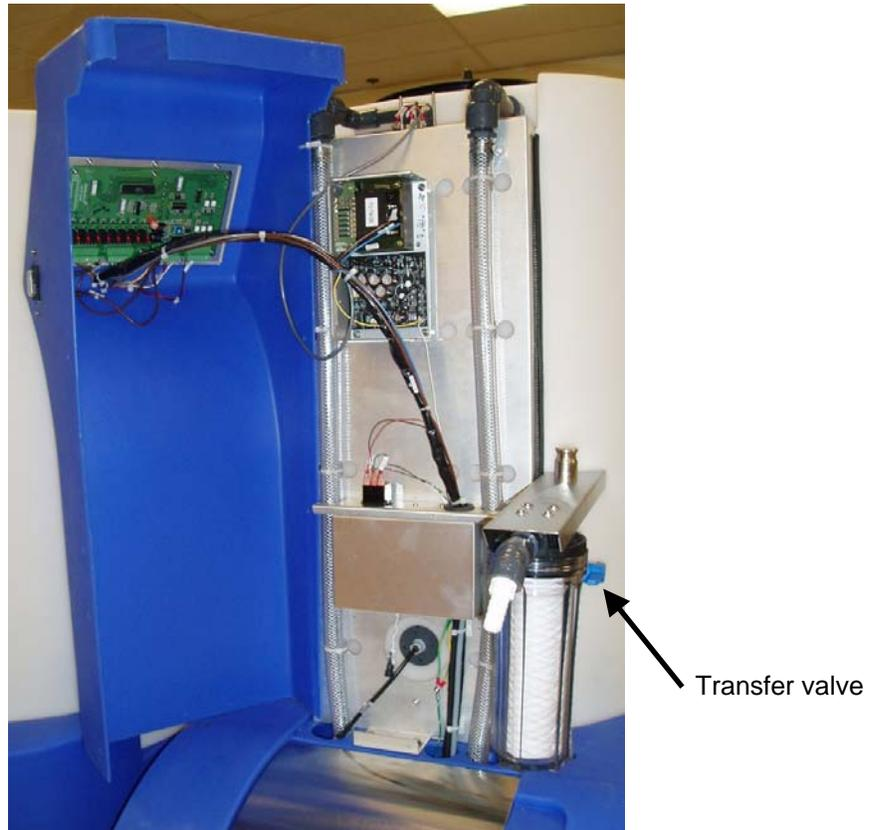

Figure 1
2. Close the transfer valve (see Figure 1).
3. Locate and remove the four (4) Phillips screws on the left side of the vertical blue shroud and the two (2) Phillips screws at the front bottom edge.
4. On the right side of the vertical blue shroud locate and remove the three (3) Phillip screws attaching the outlet spout/filter assembly bracket. Once removed the bracket/filter assembly can be laid to one side.
5. Now that the filter assembly is out of the way, the remaining three (3) Phillips screws from the right side of the vertical blue shroud can be removed.
Note: Once the shroud has been removed, the outlet spout/filter assembly can be reattached to its original position using one of its screws (see Figure 1).
7. Since the wiring to the front control panel are still attached, carefully pivot the shroud so it is sitting in reverse to the left of its original position (see Figure 1).